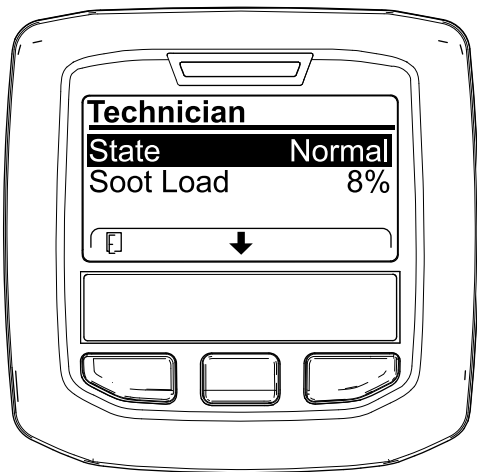

Figure 39
- Use the DPF operation table to understand the current state of DPF operation (Figure 39).